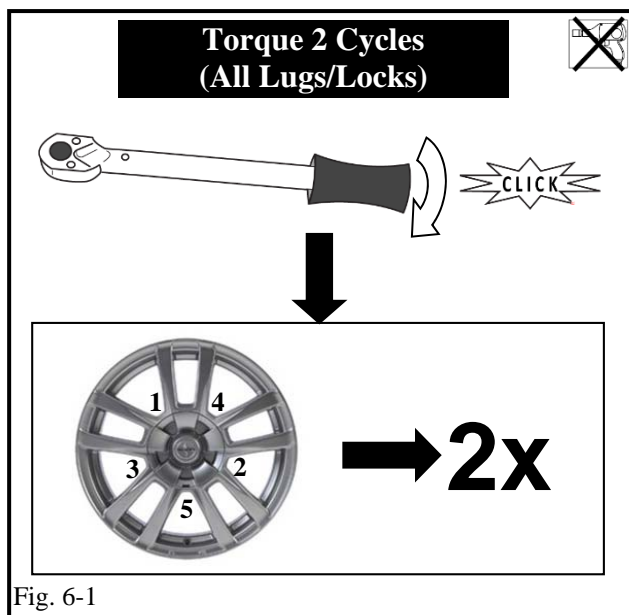

Fig. 6-1
- (a) Install the wheel/tire assemblies onto the vehicle. Be sure to place the wheel/tire assemblies on the vehicle in the marked positions from Step 1. Hand start the lug nuts during installation. Tighten the lug nuts in sequence 1 through 5 or equivalent star pattern (Fig. 6-1).
- (d) Re-torque all lug nuts in the same 1-5 sequence (Fig. 6-1).